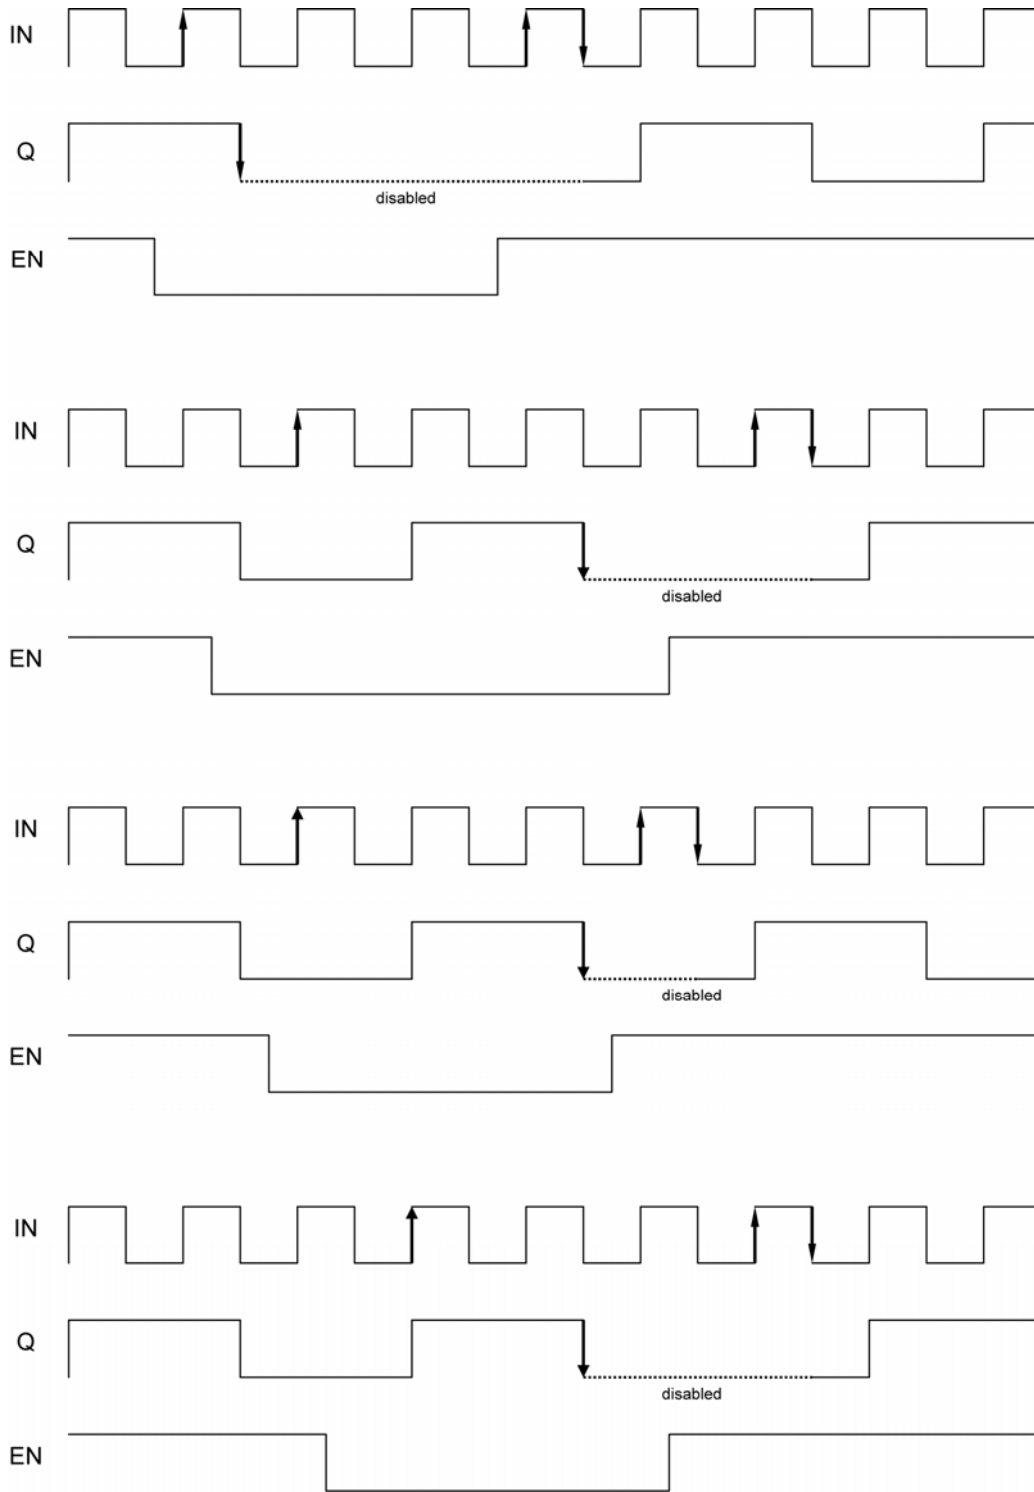

Figure 1b. Enable Output Timing Diagram Examples
2. The enable/disable function always guarantees the full pulse width at the output before the clock outputs are disabled, non-dependant on the divider ratio. Refer to Figure 1b for examples.